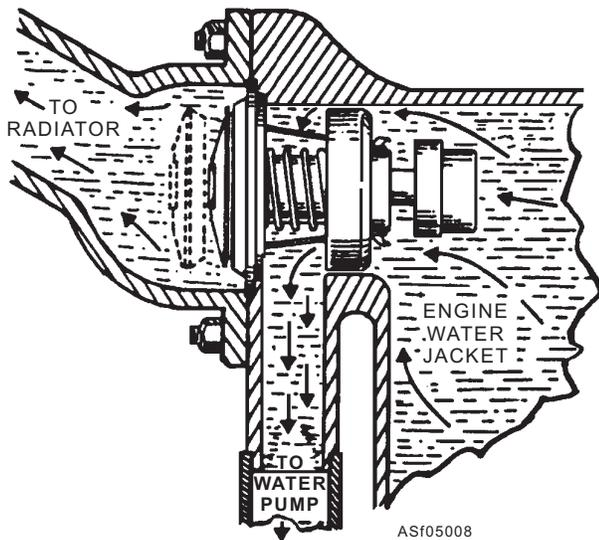

Figure 5-8.—Pellet thermostat.
**PELLET THERMOSTAT.**—The PELLET thermostat (fig. 5-8) uses the piston and spring pressure principle. A small mass of powder-like crystals is enclosed within a small sealed receptacle (pellet) from which a small piston rod extends to the valve. The crystals expand under heat and push the piston sufficiently to overcome spring tension. This opens the valve. Spring tension closes the thermostat when the crystals contract. Operative failure of this kind of thermostat is caused by impregnation of the pellet with coolant, causing it to remain in the open position.